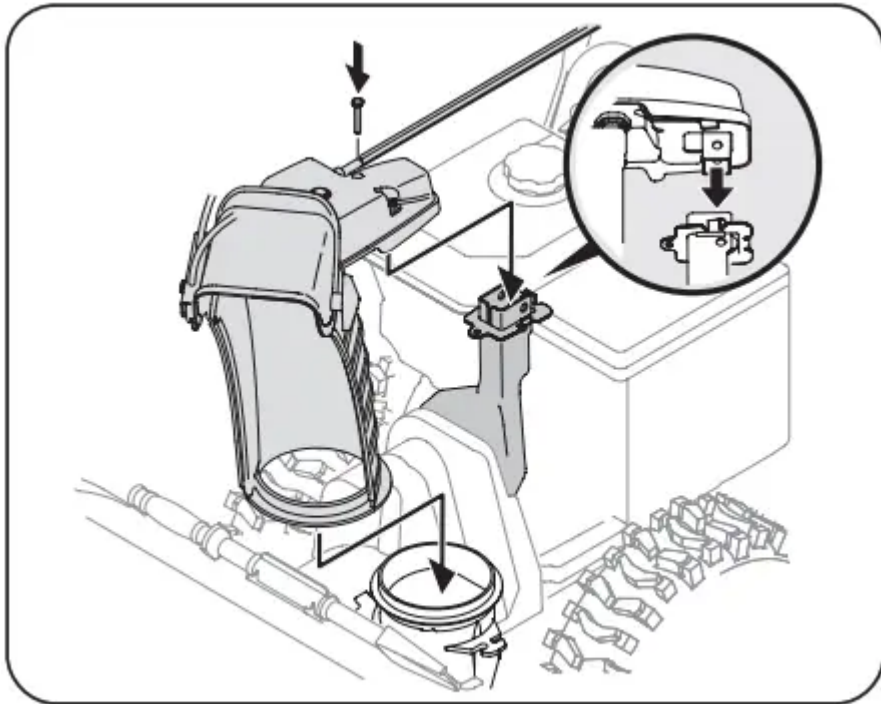

Figure 21
3. Place chute onto chute base and ensure chute control rod is positioned under handle panel. Install hex screw removed in Step 1, but do not secure with wing nut at this time. Figure 21